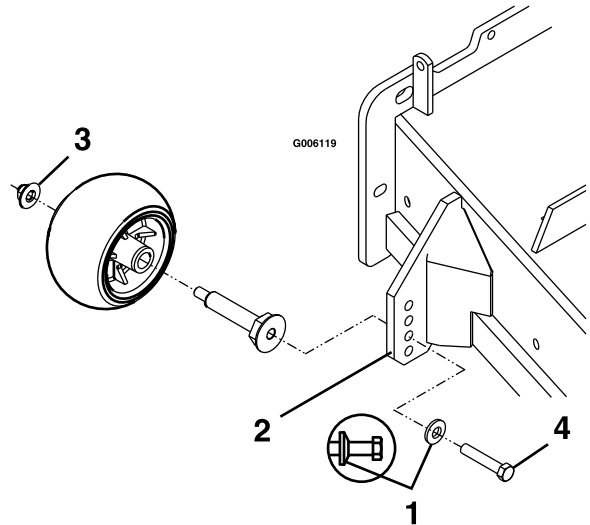

Figure 10
- Torque the 3/8-24 x 2 Gr 8 hex capscrew to 50-55 ft-lb (68-75 N-m) (Figure 10).
- If the 3/8 nyloc nut has been removed, reinstall and torque to 30-35 ft-lb (41-47 N-m).(Figure 10).